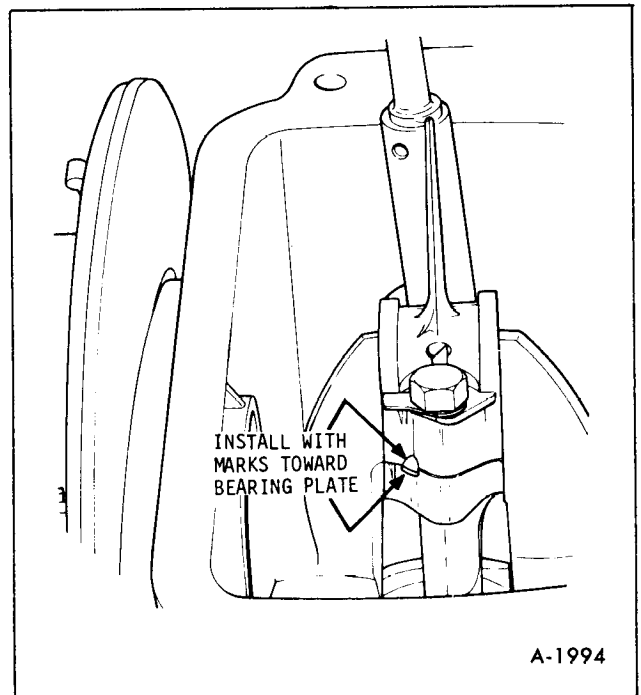

Figure 18—Match Marks on Connecting Rod and Cap
**ROD REPLACEMENT:** (figure 18) The cylinder head and piston-rod assembly must be removed to replace the rod. Check big end (or crankpin end) for score marks, excessive running and/or side clearance. Replace rod if big end diameter exceeds 1.5025 or if rod to crankpin clearance exceeds .0035". Side clearance should be 1.180". Rods are available in .010" undersize for use with reground crankshaft.